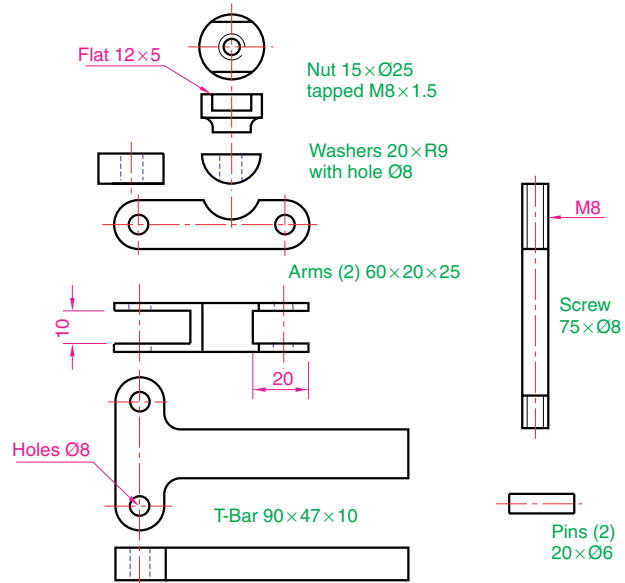

Fig. 15.1 The components of a lathe milling wheel holder
1. Construct individual 3D models of the parts for a lathe milling wheel holder to the dimensions given in Fig. 15.1 on layers of different colours.
2. Save each of the 3D models of the parts to file names as given in the drawing in Fig. 15.1 as blocks using the **Make Block** tool from the **Draw** toolbar. When all seven blocks have been saved, the drawings on